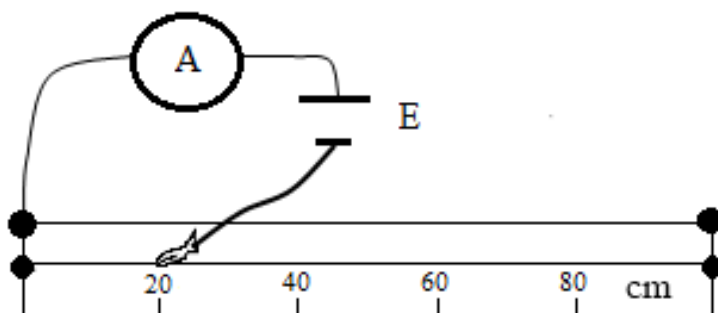

Figure 4.33: Resistance of a Conductor practical setup
2. Attach a connecting wire to the other end of the dry cell and the wire on the meter bridge at the 20 cm mark, using a crocodile clip as seen in Figure 4.33.
4. Repeat steps 2-3 for the length (L) of 40, 60, and 80 cm.
5. Tabulate your results for current (I) and length (L).